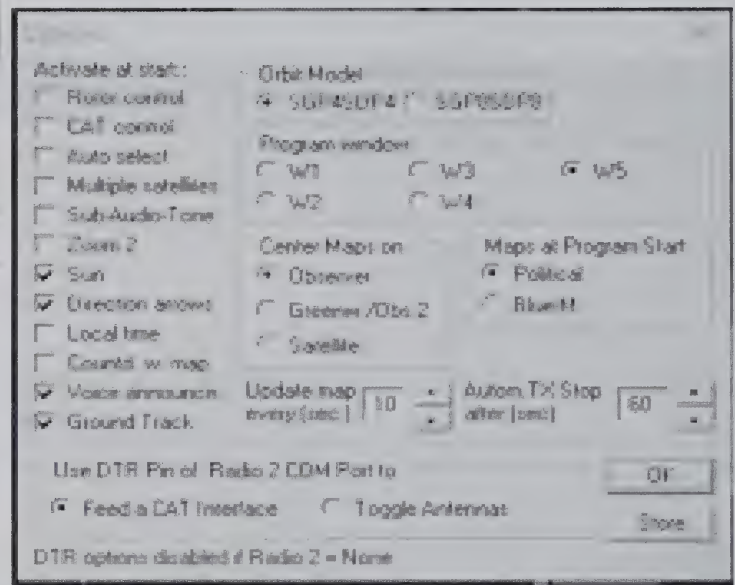

Figure 8.
G) Configure general Options: From Menu Bar, select "Setup>>Options." Figure 8 shows the options I use. After setting options, click the [Store] button.